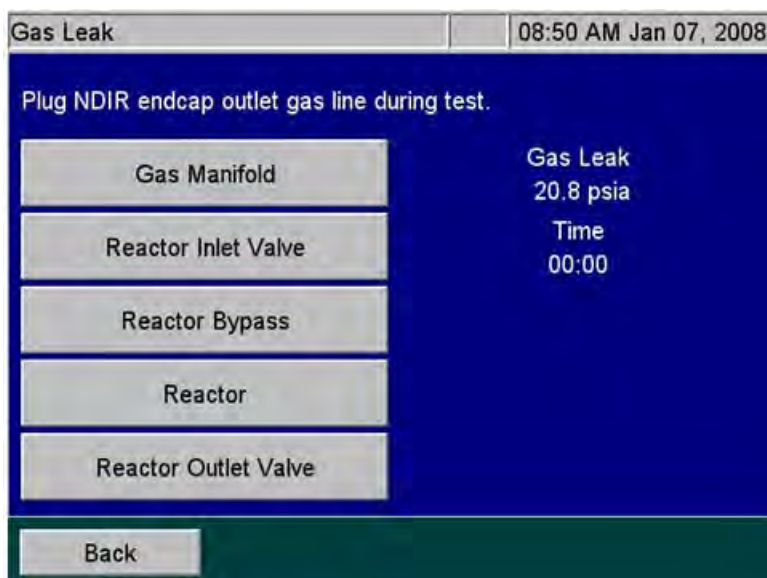

Figure 117: The Gas Leak Check Screen
3. On the *Diagnostics* screen (**Maintenance** → **Diagnostics**), press the **Gas Leak** button to display the *Gas Leak Check* screen (Figure 117). The pressure reading at the Pressure Sensor PS4-GS and a timer [initially is set to 00:00 (min:sec)] appear.